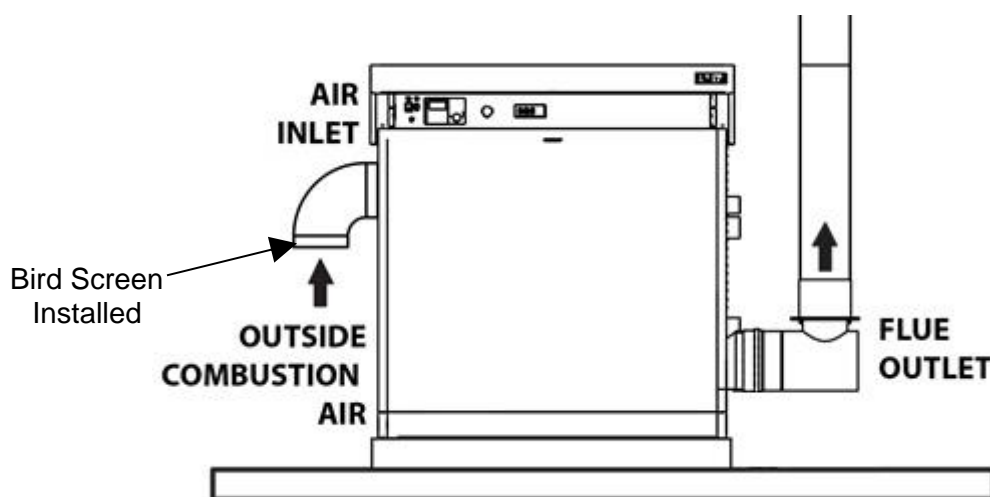

Figure 8: Outdoor Installation Air Inlet and Vent Outlet Locations
10. For outdoor installations, a downward facing 90° elbow should be added to the inlet air connection and covered with a bird screen. See Figure 8.